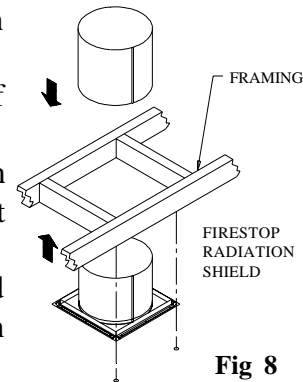

Fig 8
pointing upward (Fig 8). Use a minimum of either (1) 8 penny nail or (1) #8, 1-1/2" wood screws per corner. Refer to Table 2 for framing requirements.